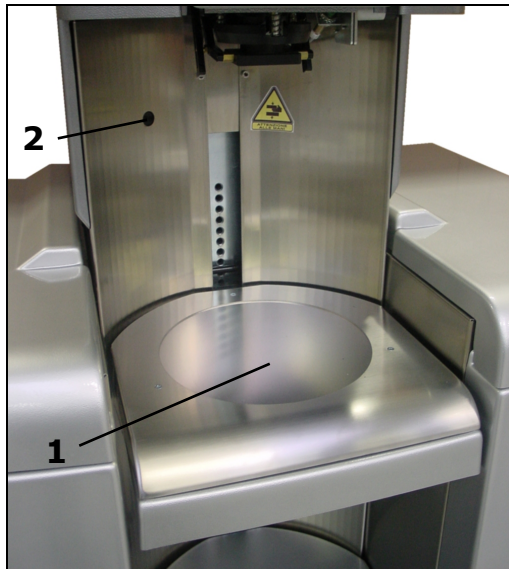

Figure 3-5
The cans, of different sizes, containing the base product to be colored are loaded and positioned by a manual shelf (1) (Figure 3-5) fixed to the machine that can be raised or lowered by the operator.
The check of can presence is carried out by the photocell (2) (Figure 3-5), placed at the appropriate height in the dispensing area (only when automatic sliding cap is present).